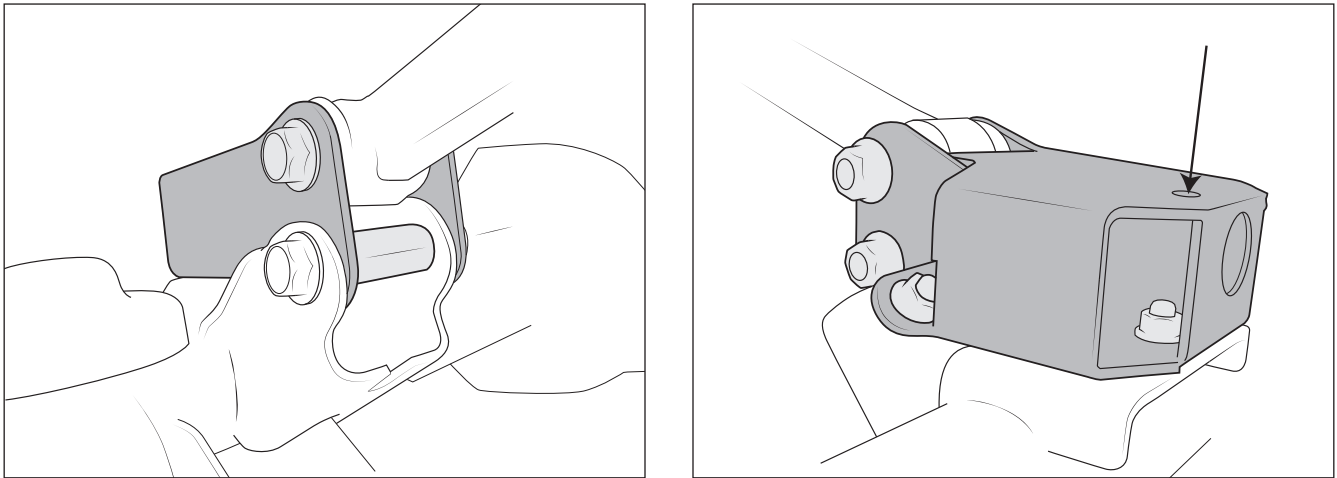

Figure 27
B. Fasten brackets to axle using M12x35mm hardware as shown (fig. 27). Torque to 75 ft-lb.